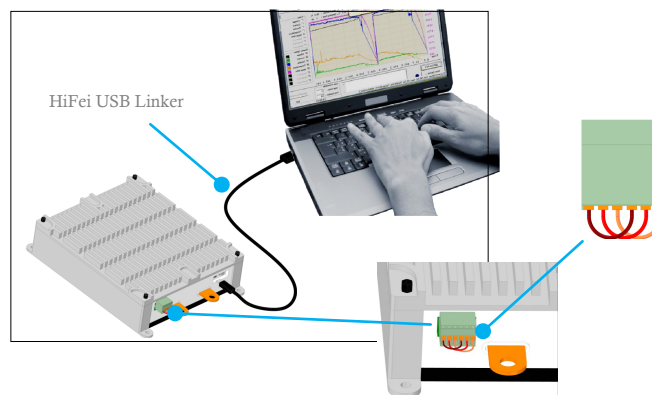

Fig. 6: Wiring Diagram of Firmware Upgrade
The Fulcrum III SHV ESC's firmware can be upgraded once new firmware for this esc is available. Before upgrade the ESC, there are two cables with 3 wires for each of them which is from 6P plug. Those two cables have to short-circuit as Fig. 6, and connect the Fulcrum ESC to computer with HiFei USB Linker.
- Connecting the cable to ESC and WiFi dongle (Figure 6)